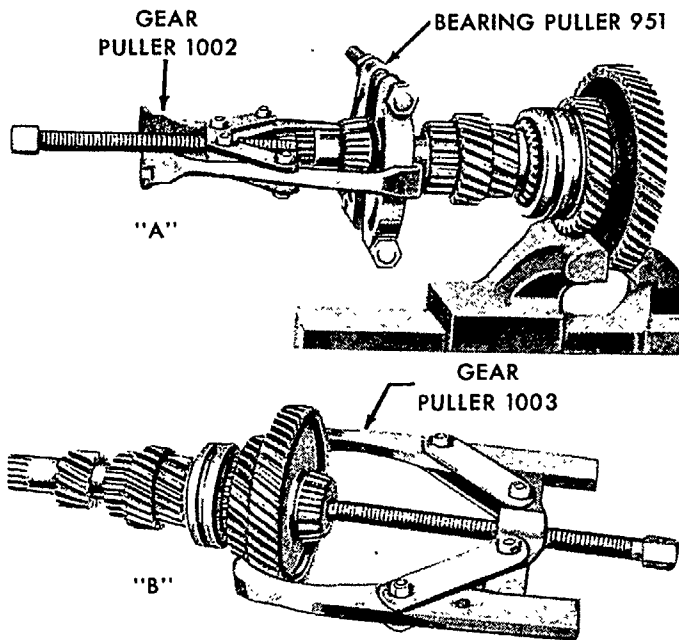

Figure 14
2. With Bearing puller No. 951 and Gear Puller No. 1002, as shown in "A", Figure 14, pull the countershaft rear bearing and oil seal sleeve off the countershaft.
3. With Gear Puller No. 1003, as shown in "B", Figure 14, pull the countershaft drive gear and front bearing off the countershaft.